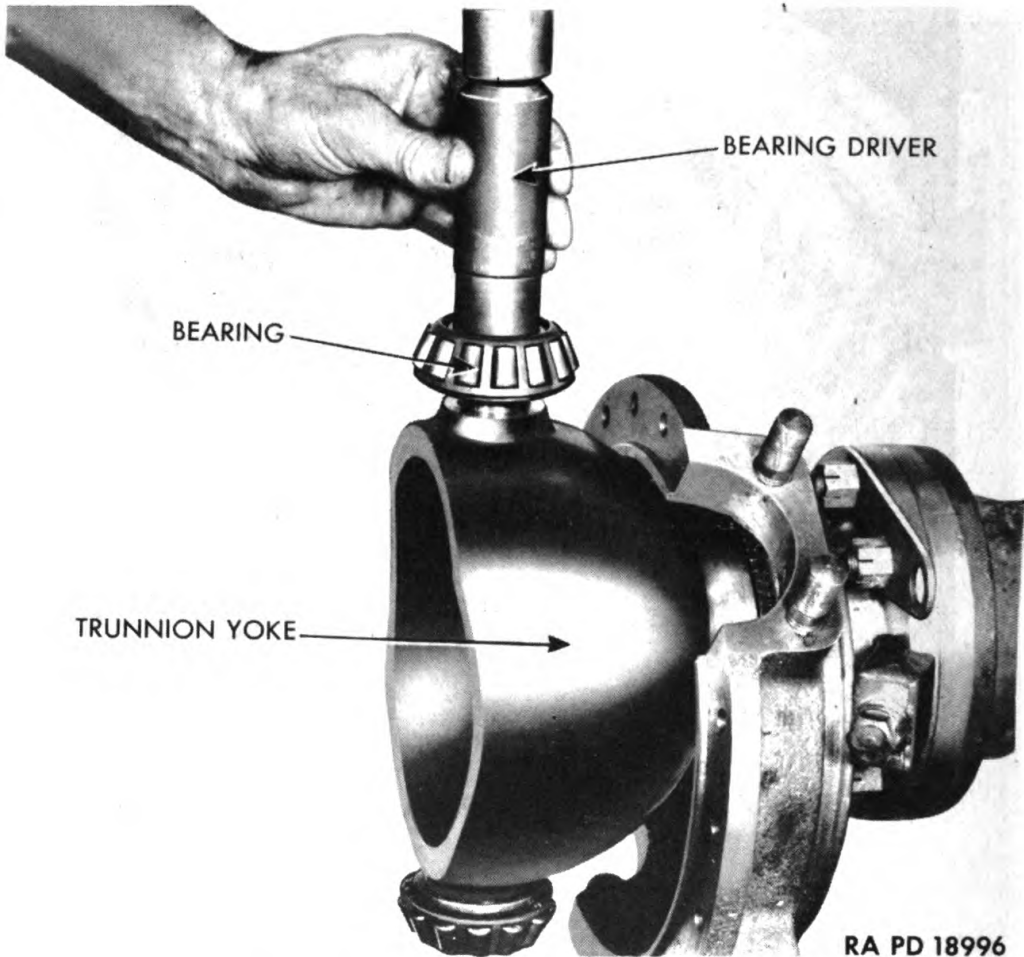

Figure 74 — Installing Trunnion Yoke Bearing
i. **Install Trunnion Yoke Bearings on Yoke Pins.** Drive upper and lower trunnion yoke bearings into place on trunnion yoke pins (fig. 74).